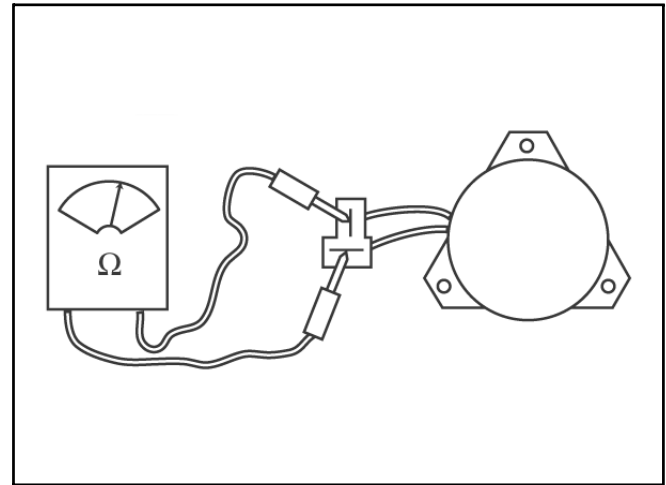

Figure 1
4. Connect the meter lead wires to the wires in the clutch connector (Figure 1).